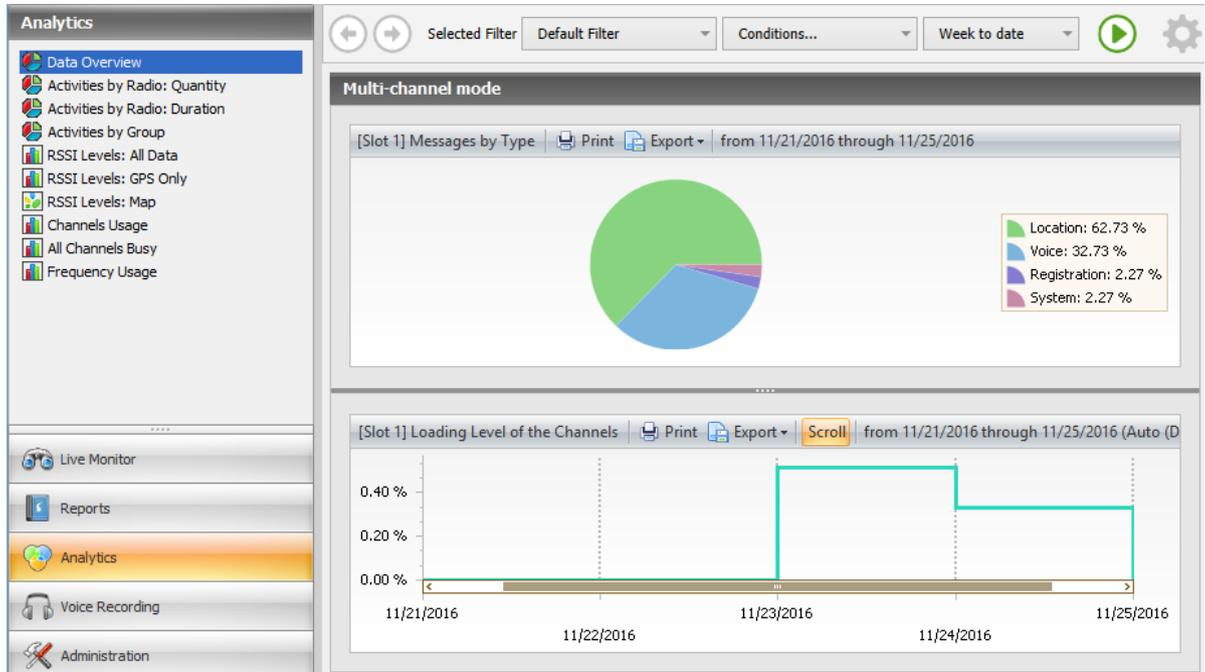

Figure 60: Analytics tab
- Multi-channel mode (Figure 60): Charts are generated for multiple selected systems or for a single system other than IP Site Connect.